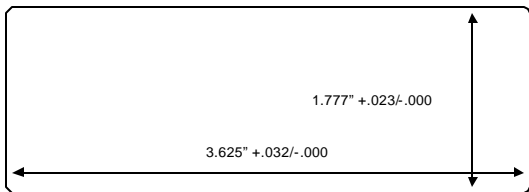

Figure 1. Panel cutout dimensions.
1. In your panel, cut a hole to the dimensions specified in Figure 1.